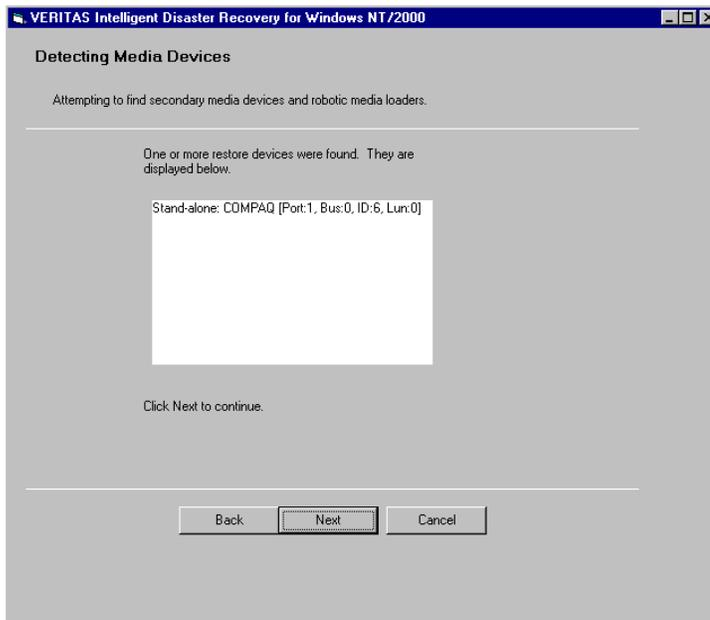

Figure 16: Restore devices dialog
6. Figure 16 shows the dialog box that displays the attached devices that were found. Click Next to continue.